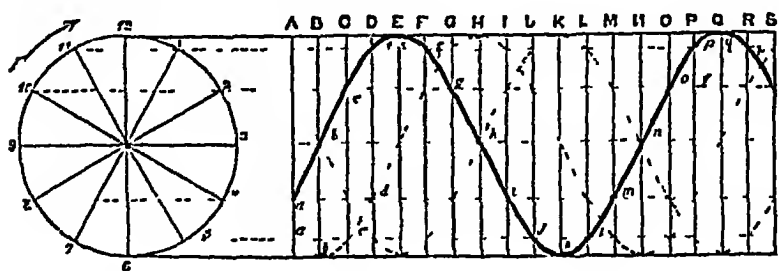
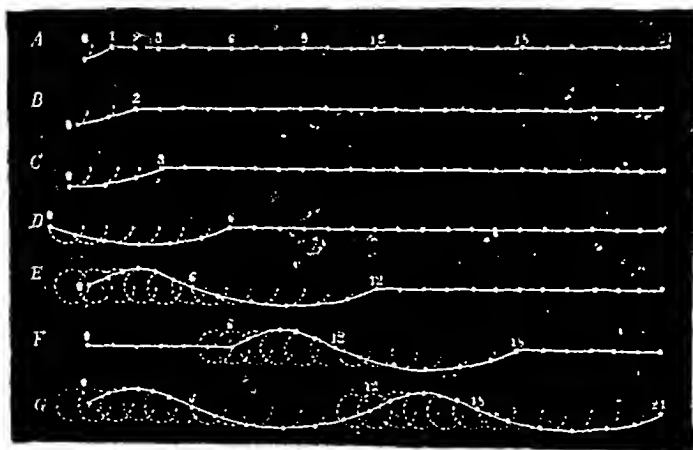

FIG 46
FIG 47
Suppose a number of particles move in parallel straight lines APCD with harmonic motion, so that each succeeding particle is  $\frac{1}{2}$  of a revolution behind the other, and suppose the time of a revolution (the period) be 1 second. The position of the particles at any time can be determined from the generating circle (fig 46).
For simplicity we have supposed that the particles in fig 46 move in straight lines, they may move with harmonic motion in ellipses or circles. Suppose 0, 1, 2, 3, a number of particles at rest (fig 47), and that 0 begins to move in a circle, the period being one second, and that each particle follows  $\frac{1}{12}$  second later than its predecessor. A B C D E represent the positions at the end of  $\frac{1}{12}$ ,  $\frac{2}{12}$ ,  $\frac{3}{12}$ ,  $\frac{6}{12}$ , and  $\frac{12}{12}$  period. From 0 to 12 (E) is one wave-length, 0 is in its original position. If after one revolution the particles rest, one wave moves along,
If in fig 46 we double the diameter of the circle, that is, double the amplitude of vibration, while the period remains as before, each particle in A B C must move with twice its former speed The waves will be higher and will have a greater effect upon any obstacle, their capacity for doing work will be four times their former capacity In a similar way if the amplitude of the particles in sound-waves be doubled or trebled, the capacity of the waves for doing work will be four times or nine times their former capacity, and will have four times or nine times their former effect upon the ear The amplitude of the vibrations of the air-particles, will be the amplitude of vibration of the sonorous body